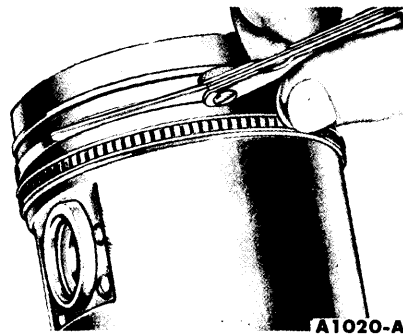

FIG. 12—Ring Side Clearance
6. Check the ring side clearance of the compression rings with a feeler gauge inserted between the ring and its lower land (Fig. 12). The gauge should slide freely around the entire ring circumference without binding. Any wear that occurs will form a step at the inner portion of the lower land. **If the lower lands have high**